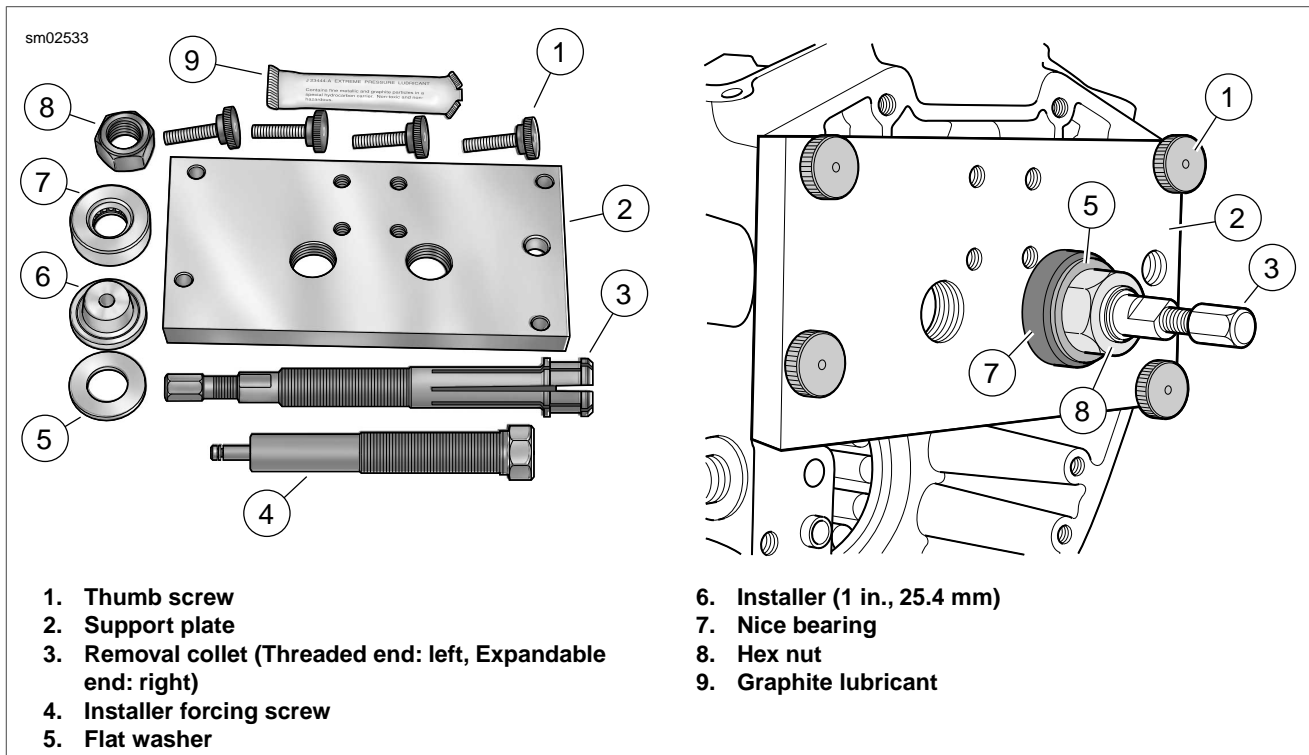
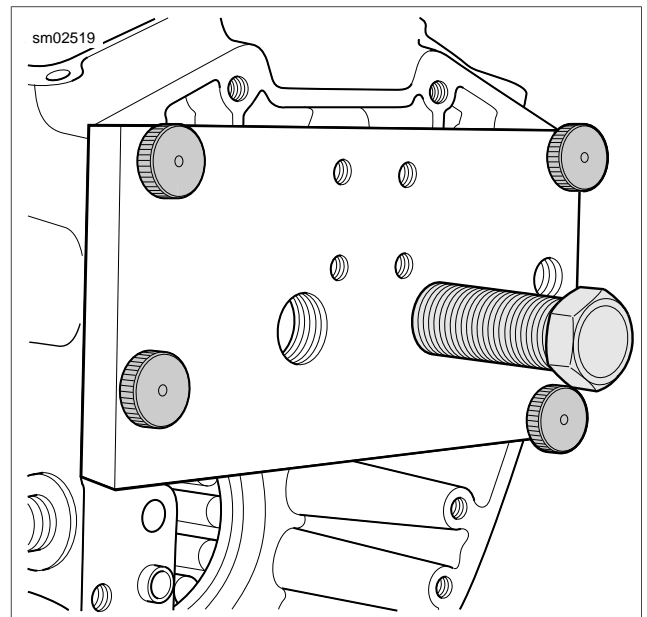

Figure 3-121. Camshaft Needle Bearing Remover/Installer (Part No. HD-42325-A)
Figure 3-124. Installer Forcing Screw Installation
2. See Figure 3-121. Remove four thumb screws (1) from threaded holes in support plate (2), if installed.
3. Sparingly apply graphite lubricant (9) to threads of collet (3) to prolong service life and ensure smooth operation.
7. Center expandable end of collet in bearing bore and slide Nice bearing (7) and flat washer (5) on threaded end. Start hex nut (8) on threaded end.
3. See Figure 3-121. Sparingly apply graphite lubricant (9) to threads of installer forcing screw (4) to prolong service life and ensure smooth operation.
4. Thread installer forcing screw into stamped side of support plate (2) until threads begin to emerge from opposite side.
5. Place installer (6) at end of installer forcing screw.
7. See Figure 3-124. Aligning two large holes in support plate with needle bearing bores, hang right side of plate on ring dowel in crankcase flange.